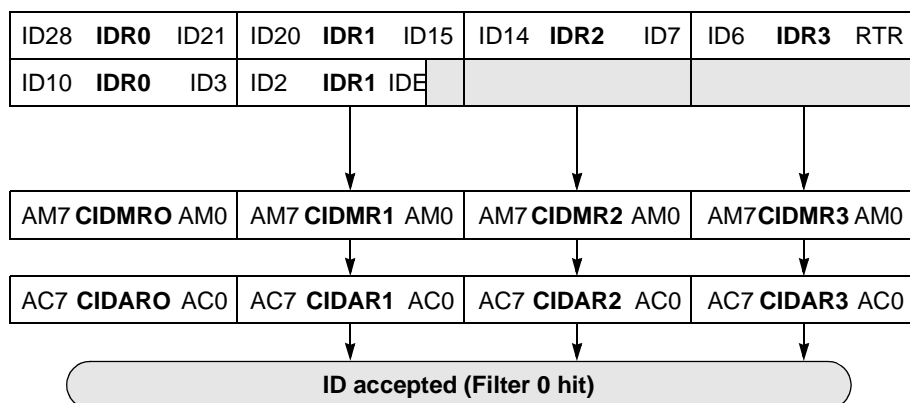

Figure 43 32-bit Maskable Identifier Acceptance Filters
- Two identifier acceptance filters, each to be applied to the full 29 bits of the identifier and to the following bits of the CAN frame: RTR, IDE, SRR. This mode implements a two filters for a full length CAN 2.0B compliant extended identifier. Figure 43 shows how the first 32-bit filter bank (CIDAR0–3, CIDMR0–3) produces a filter 0 hit. Similarly, the second filter bank (CIDAR4–7, CIDMR4–7) produces a filter 1 hit.